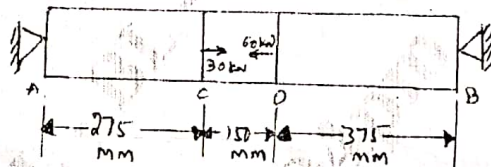

Fig.Q1(c)
- A bar of 800 mm length is attached rigidly at A and B as shown in Fig.Q1(c). Determine reaction at both ends and stress in each portion. Bar diameter is 25 mm and Young's modulus $E = 200 \text{ MPa}$.